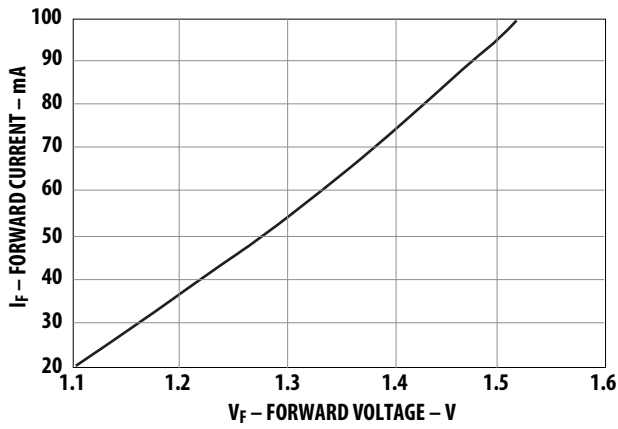

Figure 3. Typical forward voltage and current characteristics.
7. Optical rise and fall times are measured from 10% to 90% with 62.5/125 μm fiber. LED response time with recommended test circuit (Figure 3) at 25 MHz, 50% duty cycle.